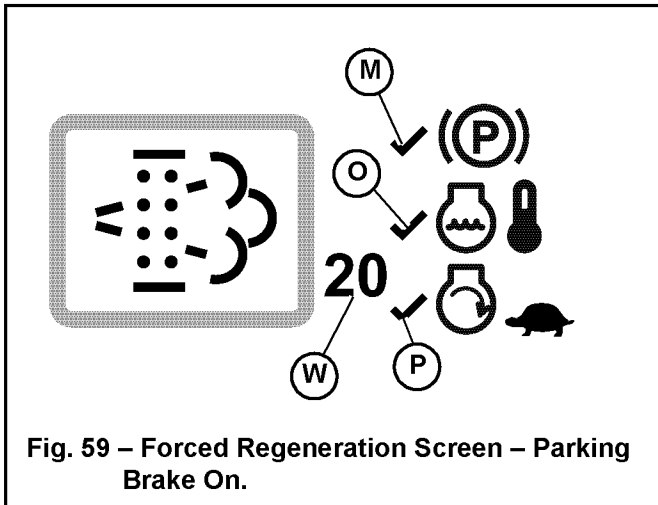
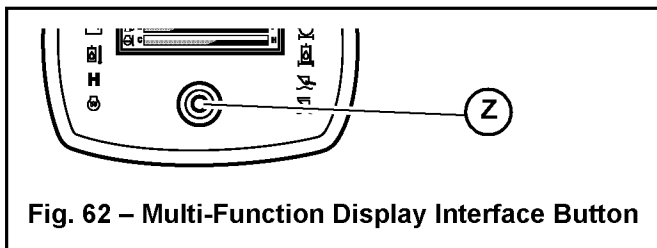
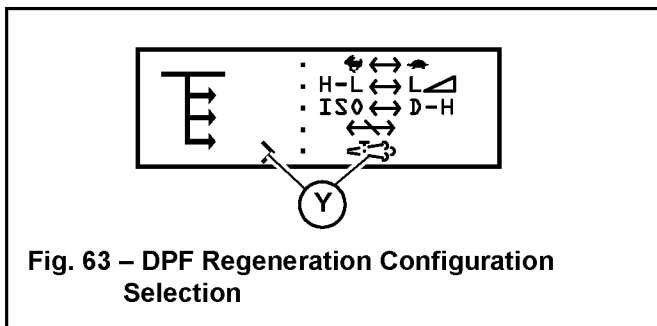
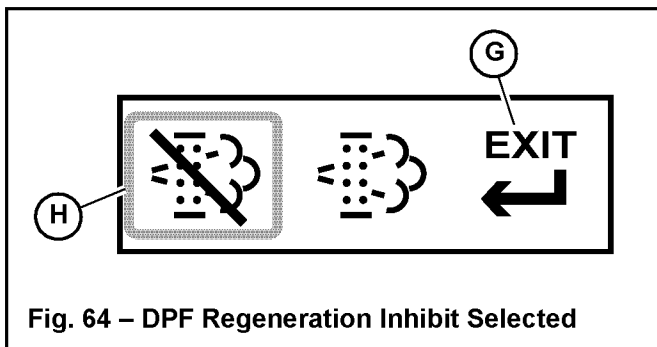

Fig. 59 – Forced Regeneration Screen – Parking Brake On.
Fig. 62 – Multi-Function Display Interface Button
Fig. 63 – DPF Regeneration Configuration Selection
Fig. 64 – DPF Regeneration Inhibit Selected
- a. Apply the parking brake using the parking brake switch or by lifting the safety bars/arm rests. A checkmark (M, Fig. 59) is displayed next to the parking brake icon in the middle of the forced regeneration screen.
- b. When engine coolant has reached operating temperature (above 140° F / 60° C), a checkmark (O) is displayed next to the coolant temperature icon.
- c. Place throttle controls to the slow speed position. A checkmark (P) is displayed next to the slow engine speed icon when the engine is running at low idle.
7. When all three checkmarks (M, O & P) are displayed on the forced regeneration screen, press and hold the interface button (Z, Fig 62) on the multi-function display, until countdown (W, Fig. 59) reaches “0” and stationary regeneration begins.
1. Hold down the interface button (Z, Fig. 62) on the multi-function display until the DPF Regeneration configuration selection screen (Fig. 63) displays.
2. Press and release the interface button until the selection caret points to the  selection (Y, Fig 63). Press and hold the interface button until the DPF Regeneration Configuration (Fig 64) screen displays.
3. Press and release the interface button to move box (H, Fig 64) around the regeneration inhibit symbol, as shown Fig.64.
NOTE: “EXIT” selection (G) returns the display to the configuration screen (Fig. 63).
4. With box (H) around the regeneration inhibit symbol, press and hold the interface button until the regeneration inhibit symbol blinks.
5. Press and release the interface button to move box (H) around the “EXIT” selection (G). Press and hold the interface button until the configuration selection screen displays.
2. Press and release the interface button until the selection caret points to the  selection (Y, Fig 67). Press and hold the interface button until the DPF Regeneration Configuration (Fig 64) screen displays.